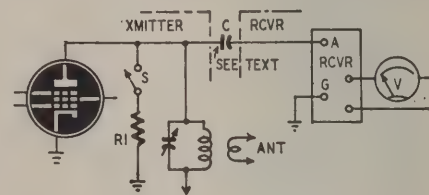

Fig. 1—Setup for radiationless tuning.
The circuit connections are shown in Fig. 1. The receiver is loosely coupled to the plate lead of the transmitter tank circuit by capacitor C, which consists of approximately 1 inch of insulated wire wound around the plate lead. The receiver is tuned to the operating frequency of the transmitter, and the static noise voltage picked up by the transmitter antenna is read on the output meter.
Correct antenna coupling is determined by adjusting the coupling controls until the received noise voltage, as indicated by the output meter, drops to about one-half its peak value when a resistor equal to the load resistance required by the transmitter output tube is connected from the plate of the transmitter output tube to ground. Resistor R1 in Fig. 1 is the load resistor used for this purpose. It is the $\frac{1}{2}$ -watt carbon resistor previously specified as required equipment.
3. Couple the receiver input to the plate circuit of the transmitter final amplifier tube as indicated in Fig. 3, a simplified form of Fig. 1. (As previously stated, capacitor C, the coupling unit, consists of approximately 1 inch of insulated wire wrapped around the plate lead. This is quite sufficient for the frequency ranges used for amateur communication. The lead from C to the receiver antenna terminal should be a shielded wire not over 4 or 5 feet long. The shield must be grounded.)